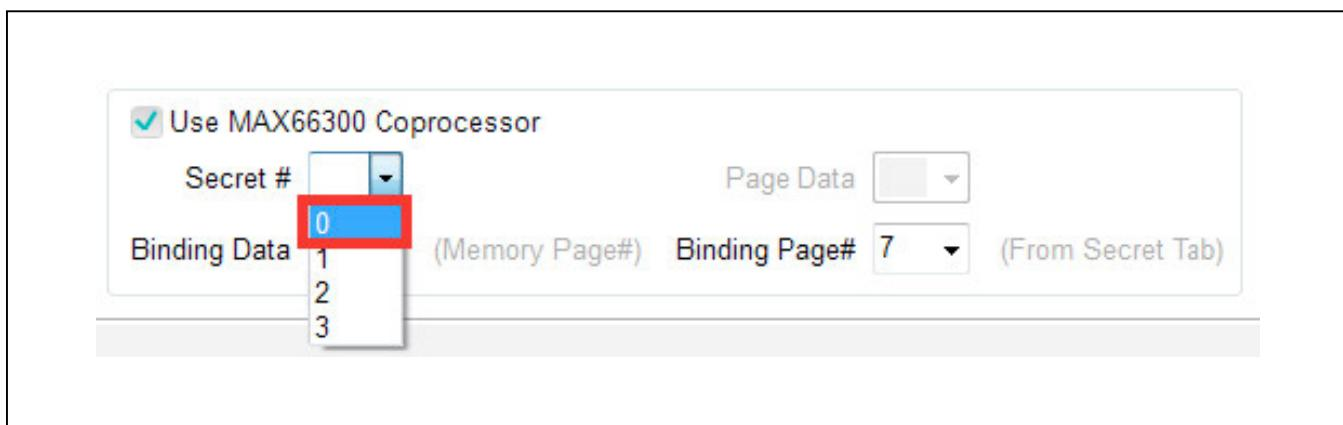

Figure 34. Select Secret #
- 4) Select '0' from the **Secret #** drop-down box (Figure 34). This conveys to the MAX66300 coprocessor that